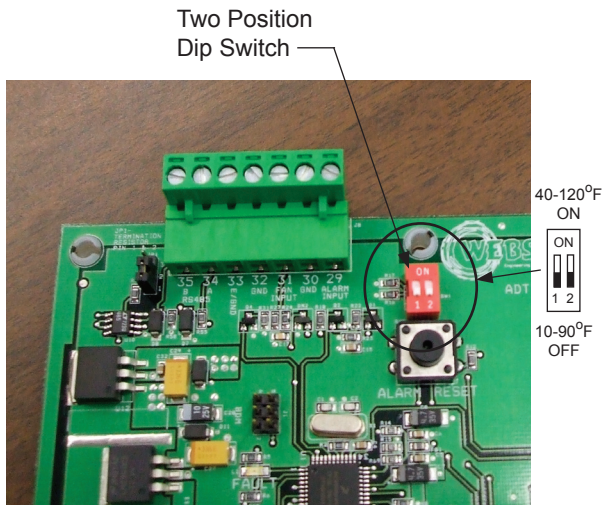

Figure E-1 Dip Switch Positions
- b. The dip switches determine which of the two operating temperature ranges are used (see Figure E-1).
c. There are two dip switches on the circuit board. Each switch has two positions, and they can be adjusted by simply sliding the position indicator. Figure E-1 shows how to position each switch to obtain the desired control range. When both switches are in the “ON” position, the control range will be 40-120 °F. When both switches are in the “OFF” position, the control range will be 10-90 °F.